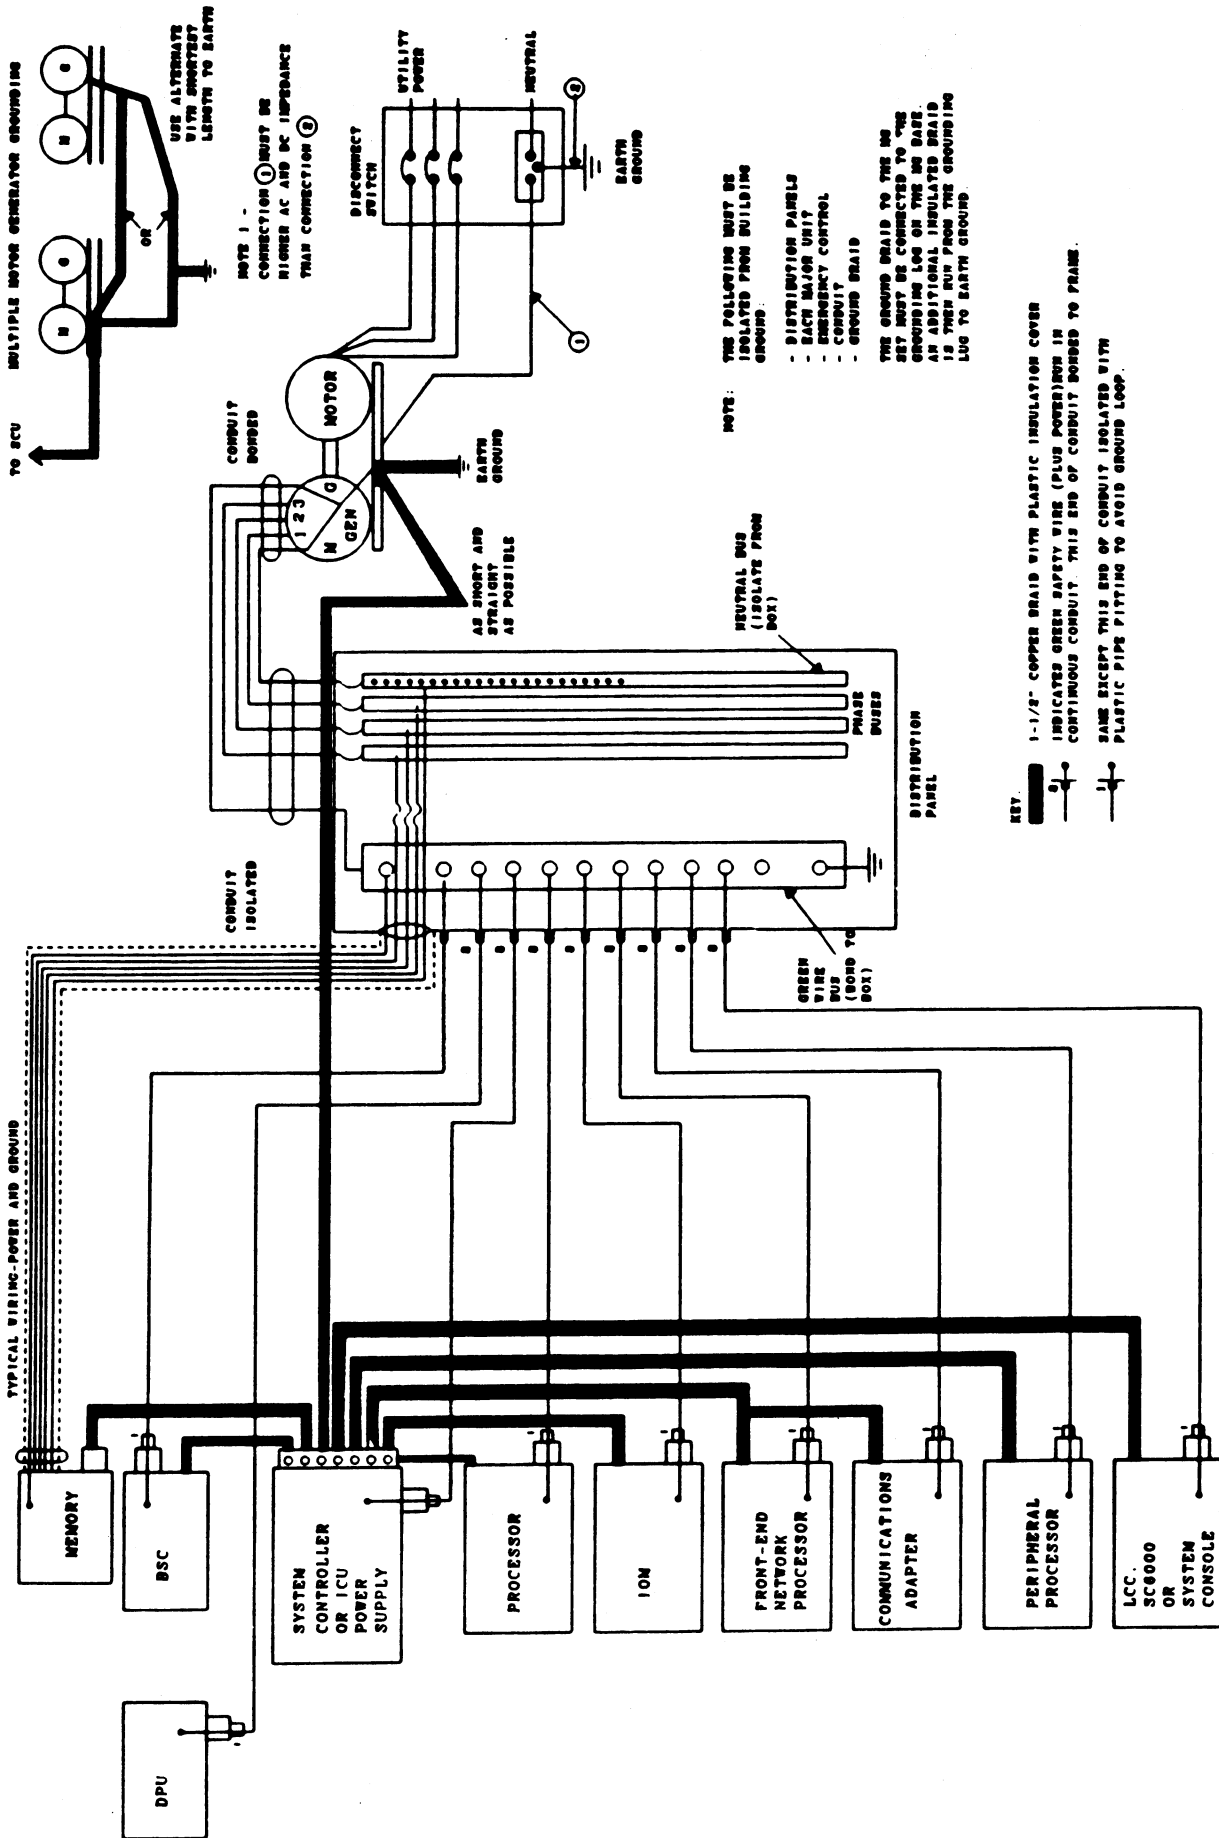

FIGURE 4-2. GROUND SYSTEM - CENTRAL SYSTEM
Successful operation of a large scale computer system can be dependent upon proper grounding. Refer to Figure 4-2. If proper grounding techniques are overlooked, ignored or misunderstood, system performance may be degraded. This may result in costly troubleshooting and maintenance, with the possibility of the system not being operational when needed.
1. Every equipment power run must have a separate, continuous insulated wire for use as a (safety) grounding conductor. (This is sometimes referred to as the green wire ground.) It is run inside the conduit or power cord with the current carrying conductors (including the AC neutral). The frame ground (green/yellow) wire must be securely fastened to the frame ground bus (or a terminal provided in the equipment), then to the power distribution panel frame (or ground bus). The distribution panel must then be connected to earth ground as shown in Figure 4-2. This wire must not connect to any grounded current carrying conductor, i.e., AC neutral or power return.
In spite of the grounding practices described previously, the dc interface between the central system equipment makes ground loops (current loops) inherent in the central system. To help reduce the inductance of these loops, with the high frequencies involved, low impedance conductors of tinned copper braid are used to establish a system ground network. This ground network provides the low impedance connection required to keep the reference ground of all equipment in the central system at a common potential. See Figure 4-2.